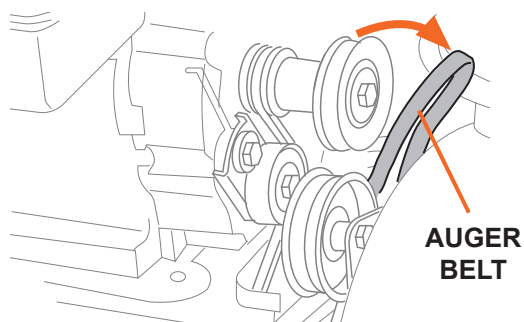

Figure 24
3. Roll the auger belt off the engine pulley (see Figure 24).